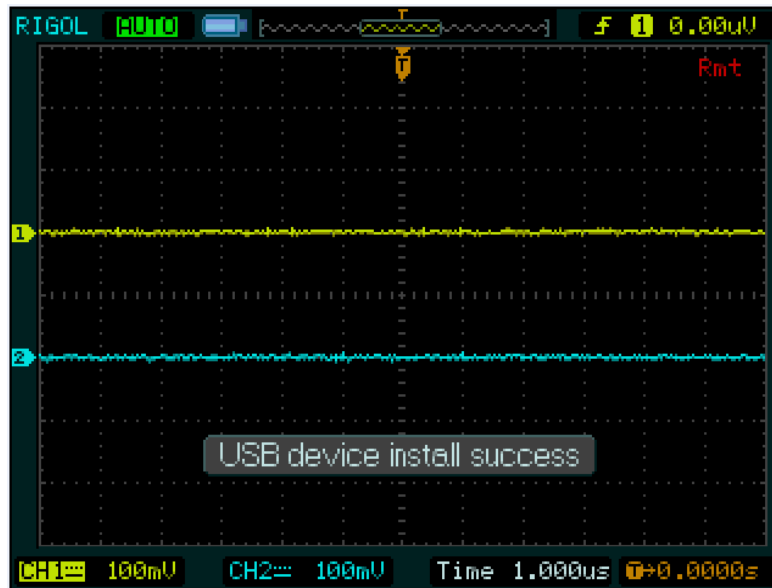

Figure 1
- When it prompts "USB device install success", it indicates the flash drive is recognized by the scope, as shown in Figure 1.